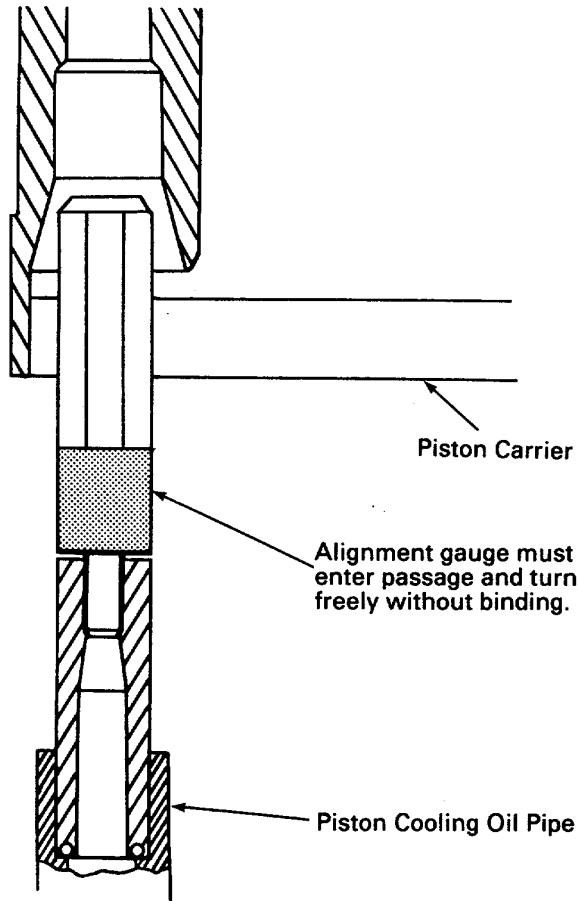

Fig. 5-24 - Applying Seal To Water Inlet Tube
80. Coat a new seal with Dow 4 silicone grease and place in the groove at the liner end of the water inlet tube, Fig. 5-24.